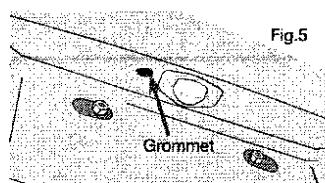
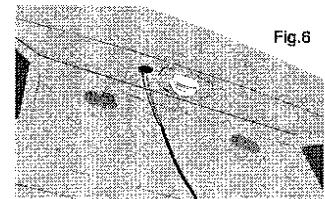

Fig.5
Fig.6
- After you have drilled a hole, insert the supplied grommet as shown in Fig. 5, then pass the power cable through the grommet into the vehicle as shown in Fig. 6. You must use the grommet to prevent the metal edge of the hole from cutting the power cable.